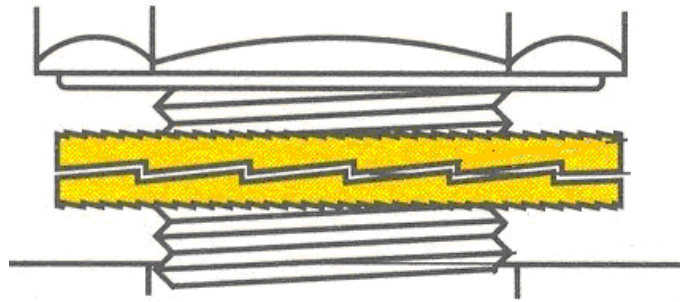

FIGURE 3. NORD-LOCK LOCK WASHER
3. Place lock washers on the mounting bolts and insert into the 6 mounting holes inside the hub mount half. Place lock washers and lock nuts on the bolt threads and using a calibrated torque wrench, torque the 6 clamping bolts evenly using a star pattern. Tighten the bolts in several increments up to full torque, such as 50%, 75%, and full torque. See **Table 1** for mounting bolt torques. Each special lock washer works in pairs with the "ramped" sides facing each other. See **Figures 3**.
NOTE: Each Nord-Lock washer works in pairs with the "ramped" sides facing each other. No other washers may be used in combination with Nord-Lock washers. See **Figure 3**.
3. Lubricate Nord-Lock washers with a light coating of engine oil or equivalent, being sure to reassemble correctly. See **Figure 3**
Hubs use bolts with Nord-Lock washers. Each lock washer works in pairs with the "ramped" sides facing each other. No other washers may be used in combination with Nord lock washers. See **Figure 3**.